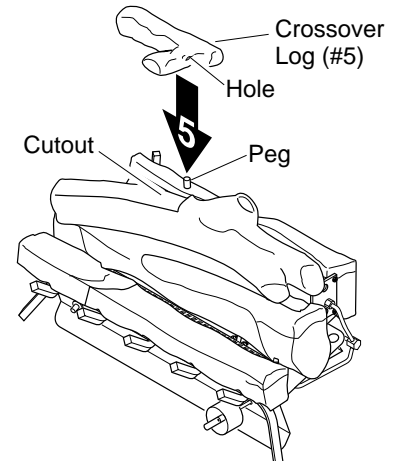

Figure 20 - Installing Crossover Log (#5)
5. Place the crossover log (#5) on the back log and the top middle log. Make sure the peg on the rear log is in the hole in the bottom of the crossover log. The crossover log should fit in the cutout of the top middle log (see Figure 20).